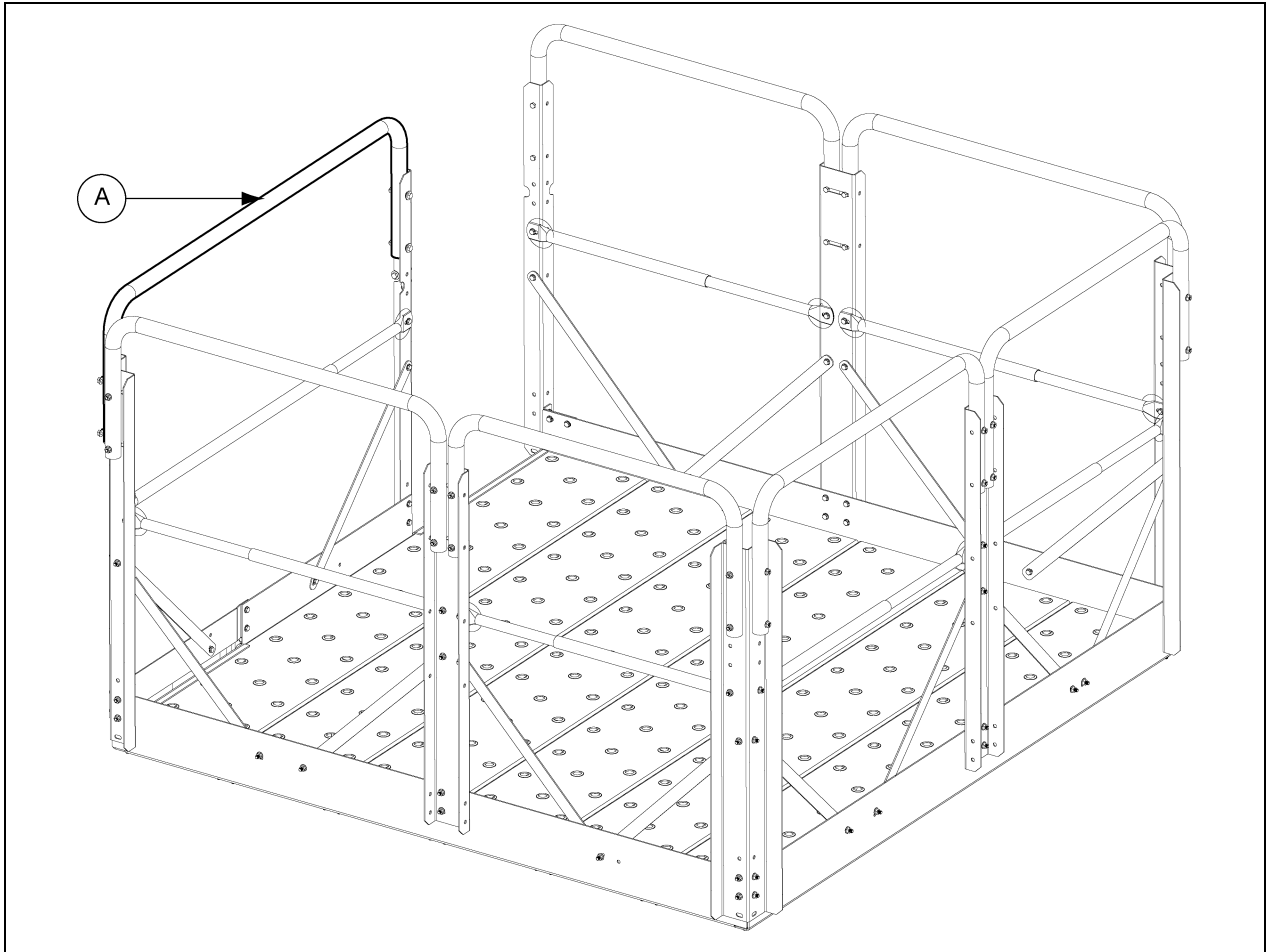

Figure 130
Attach drive handrail (HP1648HRD) (A) from "W" corner post to safety gate side post (HP1648HP) using 5/16" bolt (S-7877) (J) and 5/16" flange nut (S-3611) (K). (See Figure 130.)